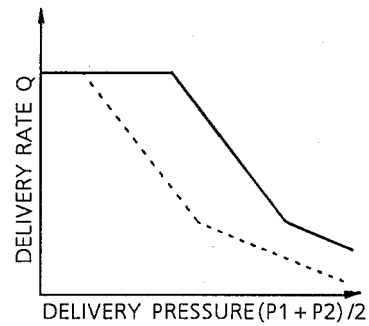

Fig. 1-5 Power shift control chart
1) Summary (See Fig.1-5 and 1-6.)
The delivery pressures P1, P2 of the pump are combined in the regulator and changes the delivery rate of the pump according to the level of the pressure as shown in Fig.1-5. For this reason, the input torque is kept nearly constant which realizes a total horsepower control, in order to prevent the engine from being overloaded. This pump system is equipped with one or two gear pumps at its rear end. The load pressures P3, Pf of the pump enables power shift control that shifts the horsepower set as illustrated in the figure on the right.